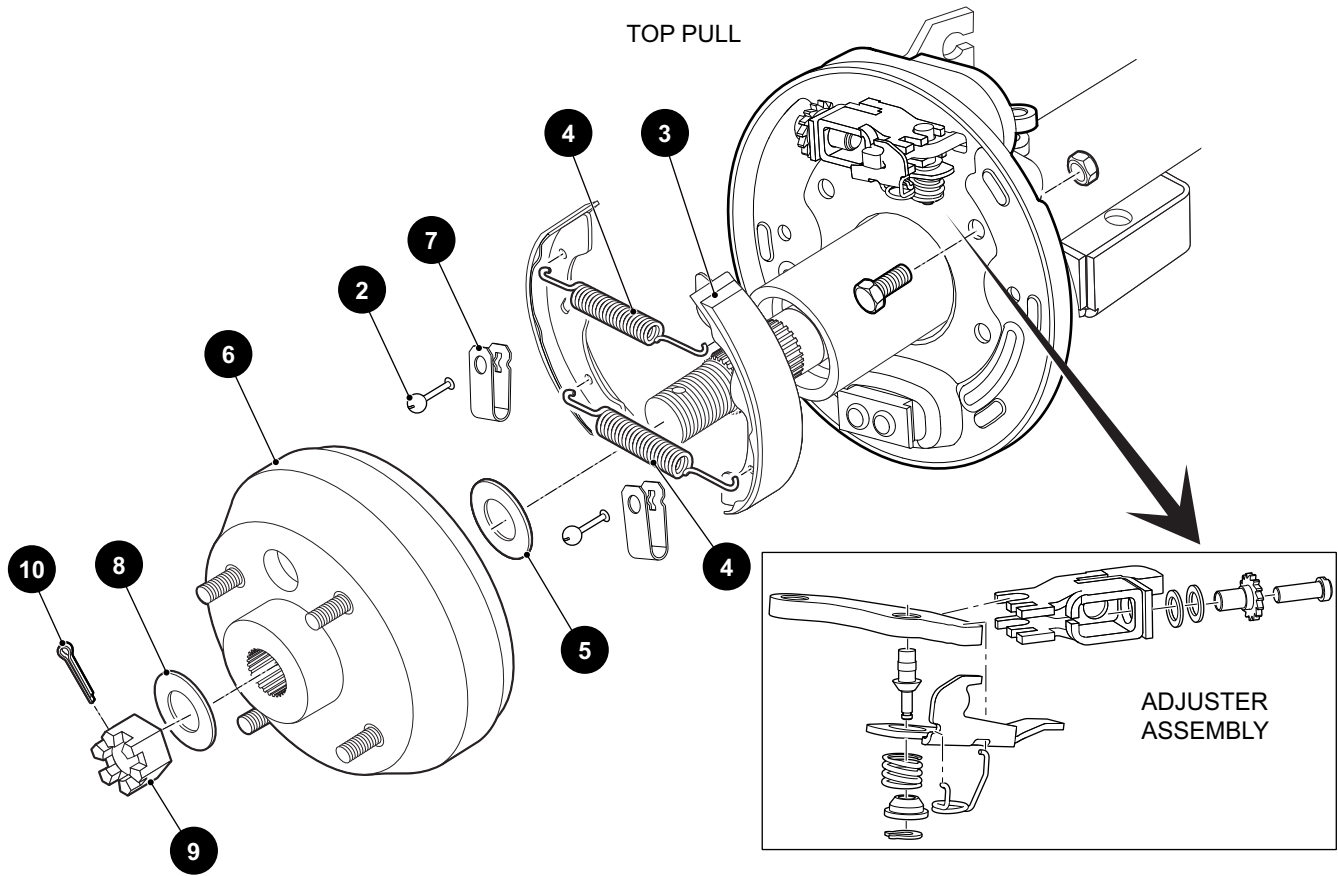

Figure 24 Brake Shoes and Springs
Use pliers to compress the open end of the brake shoe retainer springs (7) (Figure 24).